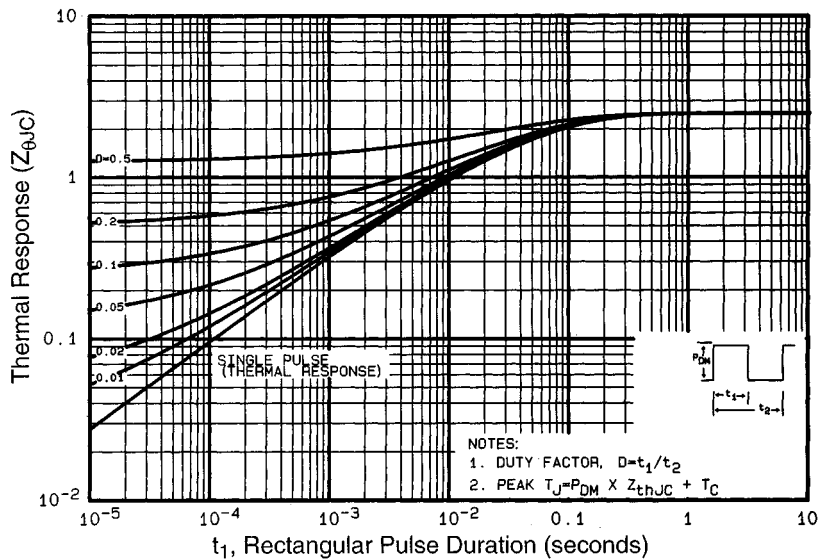

Fig 11. Maximum Effective Transient Thermal Impedance, Junction-to-Case
① Repetitive rating; pulse width limited by max. junction temperature. (See fig. 11)
② $V_{DD} = -25V$, starting $T_J = 25^\circ\text{C}$, $L = 2.3mH$